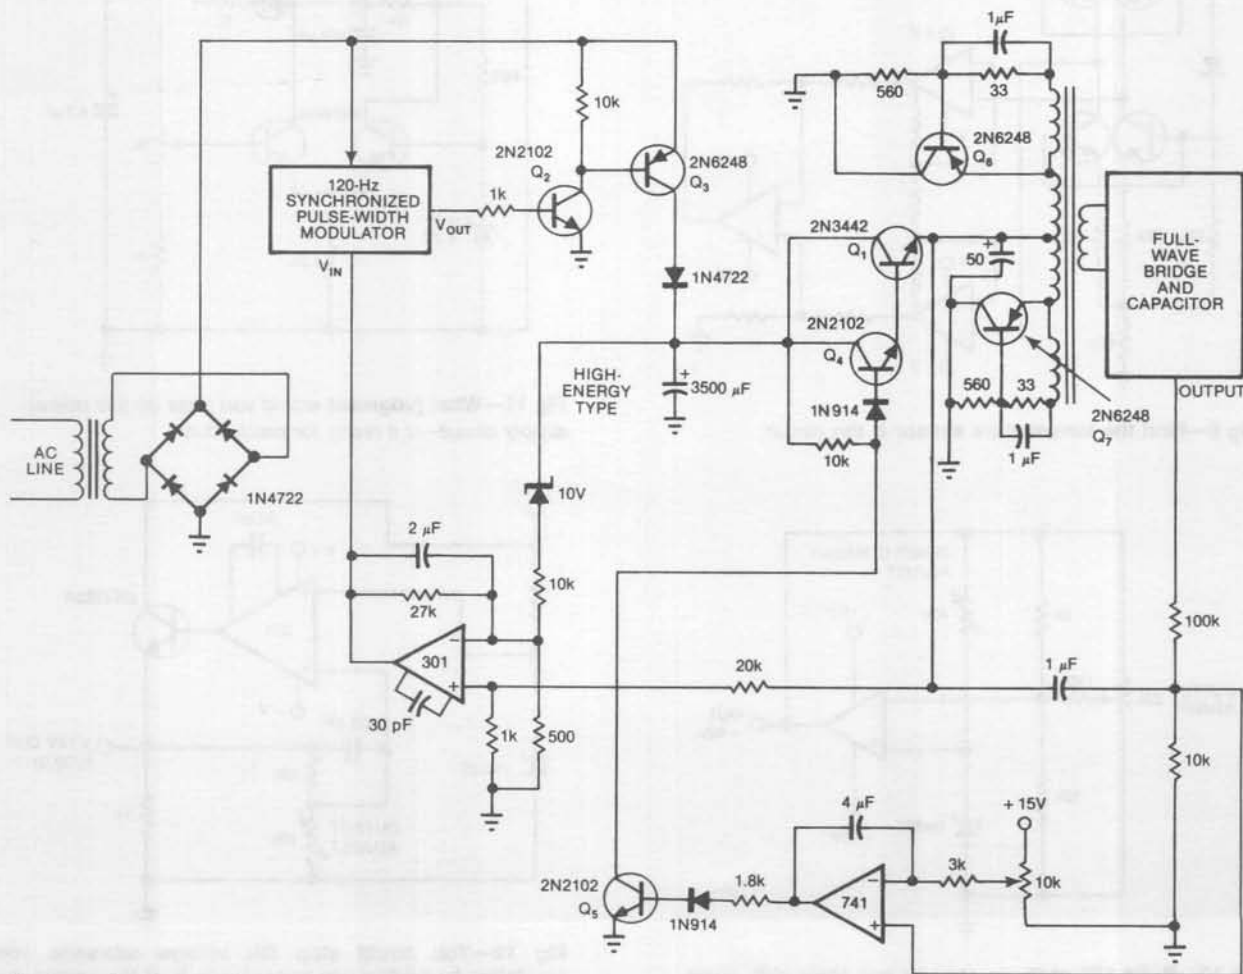

Fig 8—A dominant failure mode could exist in this circuit. Can you spot it?
12. The circuit shown in Fig 8 utilizes a line-synchronous chopper circuit to control the voltage across pass transistor Q_3 , which is included in the servo loop that regulates the high-voltage output of a toroidal dc/dc converter. The chopper circuit ensures minimum dissipation in Q_3 , regardless of the output-adjust potentiometer's setting. The circuit functions with all semiconductors below 125°F case temperature at full load for 30 min. The servo loop is stable under all